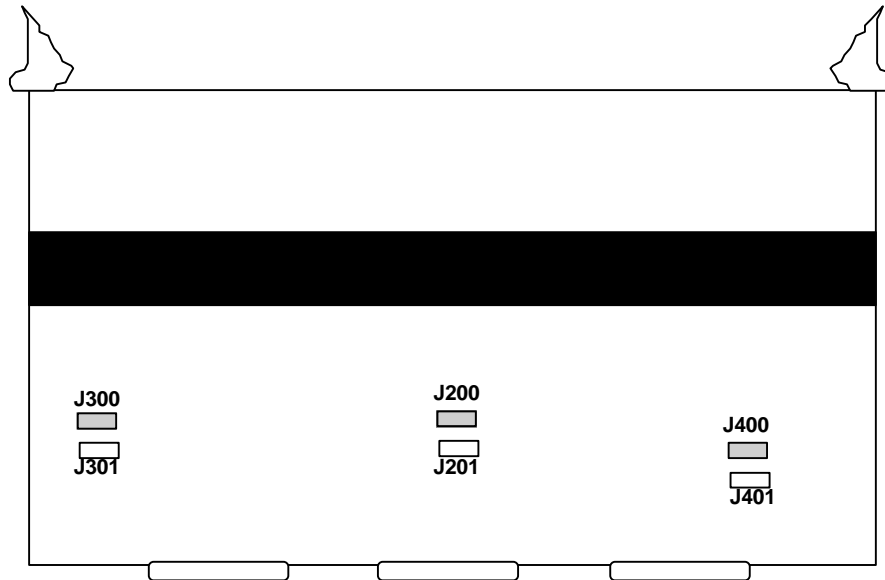

Figure 3-11. Vertical scan jumpers on the Vertical Deflection Board are factory installed into the shaded jacks for standard viewing.
The Vertical Invert jumpers invert the image vertically for use in some situations that use mirrors or ceiling projections. Figure 3-11 illustrates the location of the jumpers on the Vertical Deflection Board, (the fourth board from the rear of the projector), and indicates the proper location for normal vertical projection, (shaded boxes), and inverted vertical projection, (clear boxes). The Series 300 Projector is shipped in the normal vertical projection position with jumpers in J200, J300 and J400. For an inverted vertical setup change the jumpers to J201, J301 and J401. (Refer to *Figure 3-11*).
4. Pull out the Vertical Deflection Board and verify that the vertical jumpers are inserted in the correct jacks, depending on your application, (see *Figure 3-11*). Change jumpers if necessary.